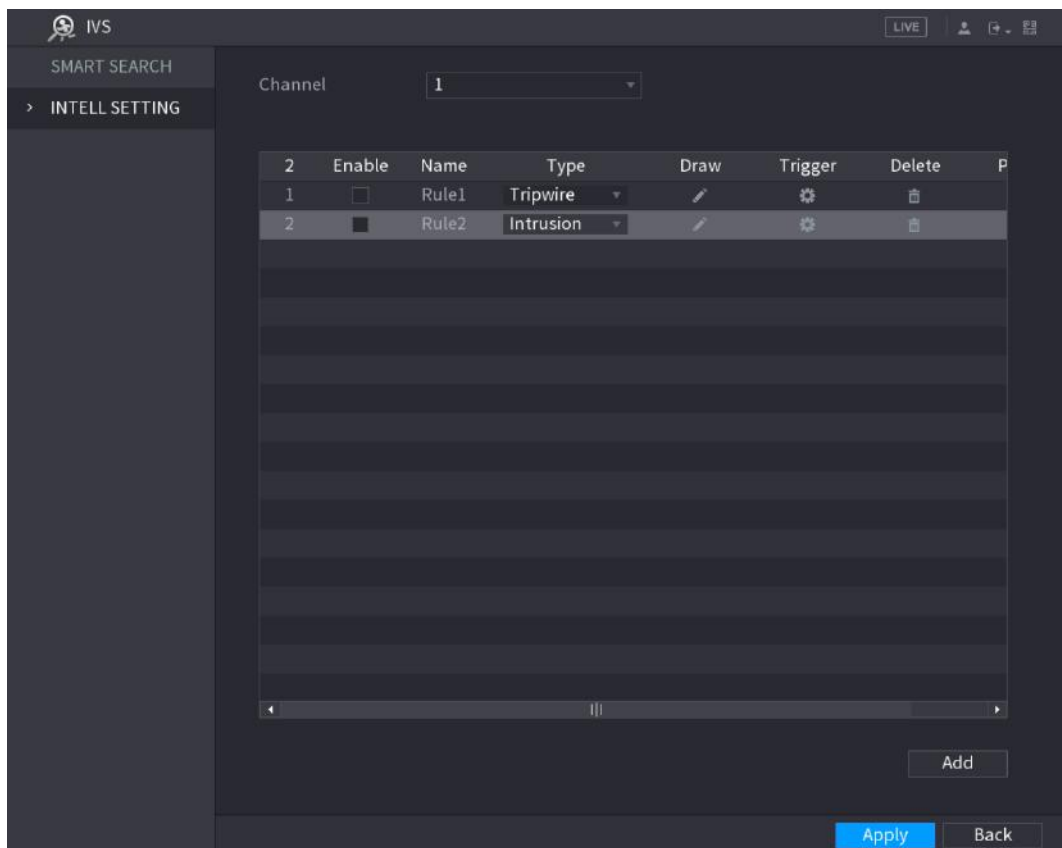

Figure 5-139
Step 1 On the rule line that you added, in the **Type** list, select **Intrusion**. See Figure 5-139.